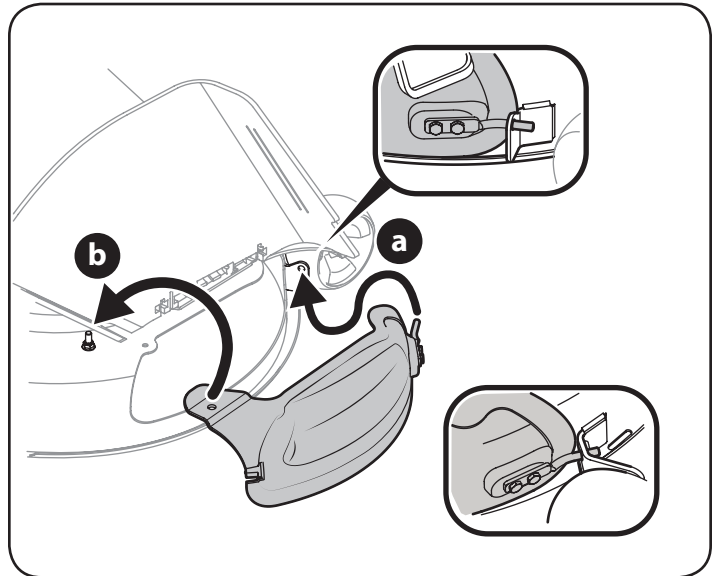

Figure 4
2. To install the mulch plug, pivot the discharge chute upward. Refer to Figure 4: